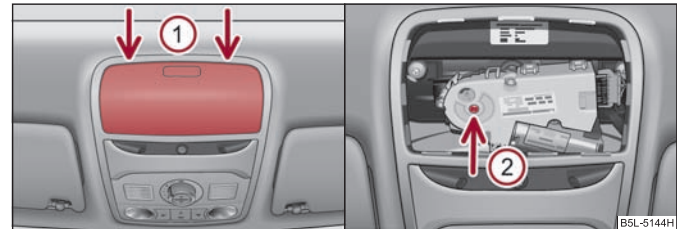

Fig. 36 Detail of the headliner: Points for positioning screwdriver / emergency operation
- Position the flat blade of a screwdriver carefully against the rear edge of the cover of the electrical drive **(1)** ⇒ fig. 36.